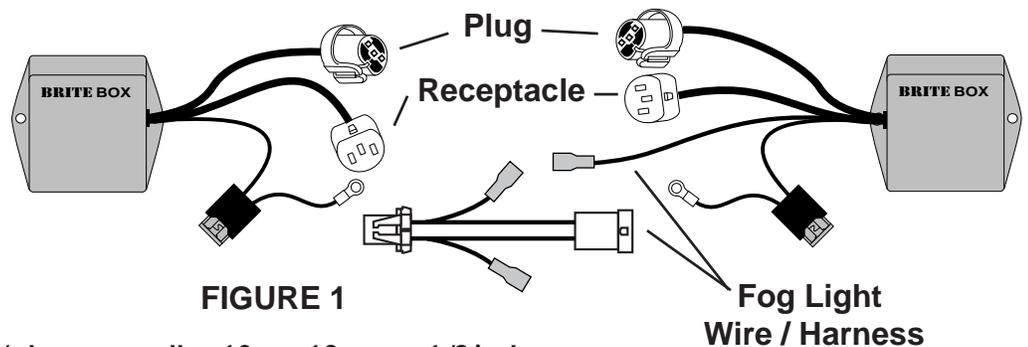

FIGURE 1
Remove two (2) plastic clips as shown in FIG 1. that secures rubber trim piece to vehicle. Use Philips screwdriver to unscrew center section. When center section is removed, clips will pull straight out .
⇒ Remove three (3) 10mm bolts in positions shown in FIG 1.
Figure Reference: Figure 1
⇨ Run fog light harness (see Fig. 1) to fog light in bumper.
STEP 5: Route fog light harness (see Fig. 1) to fog light on same side of truck where you installed Brite Box. Make sure wires do not pass over any rough / sharp edges that can wear through the insulation and cause a short circuit over time. Use